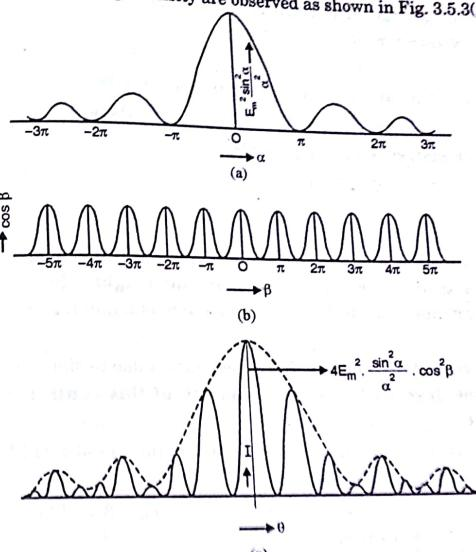

Fig. 3.5.3
- On either side of this principal maximum alternate minima and secondary maxima of diminishing intensity are observed as shown in Fig. 3.5.3(a).
- The variation of the diffraction term $E_m^2 \frac{\sin^2 \alpha}{\alpha^2}$ with α is shown in Fig. 3.5.3(a). The variation of interference term $\cos^2 \beta$ with β shown in Fig. 3.5.3(b). The resultant intensity distribution due to double slit is shown in Fig. 3.5.3(c).